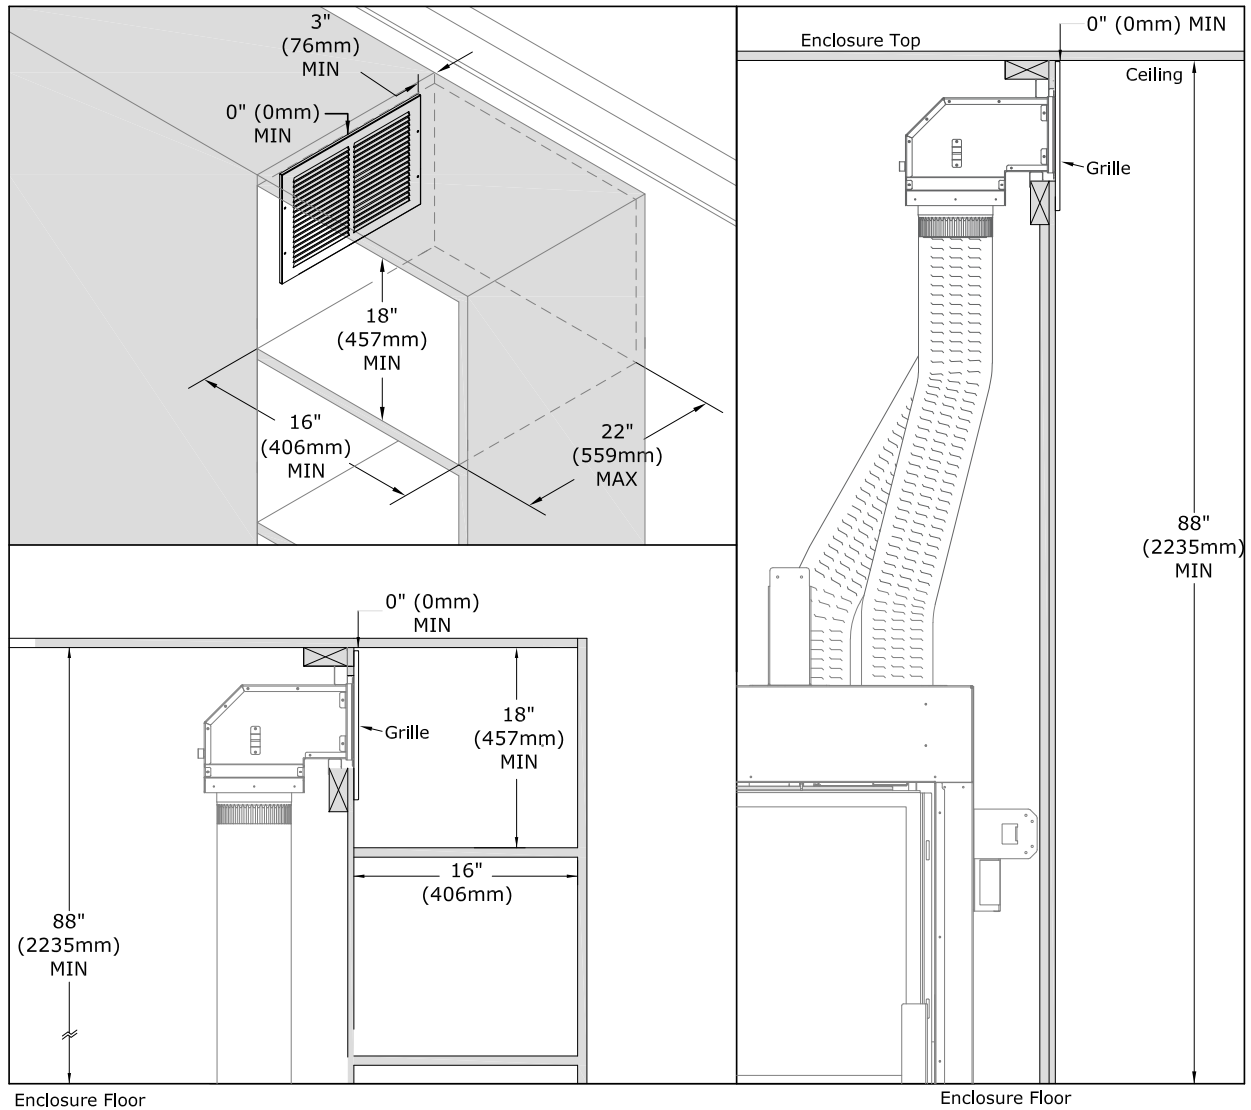

Figure 2.16 - Bellingham 38 & Bellingham 44 Shelf Requirements
- FIGURE 2.16 below shows the front facing clearance requirements for the CLW-ST for the KZK-1510A air discharge opening.